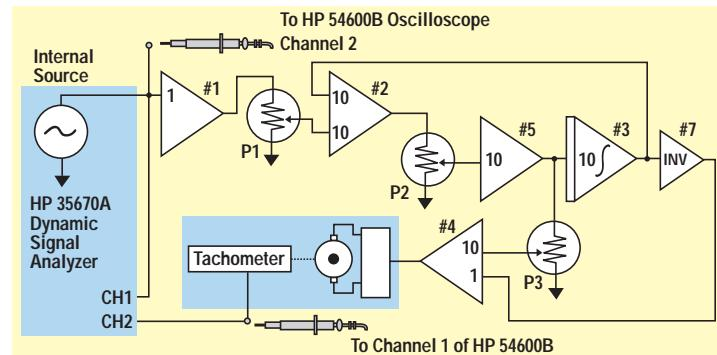

Figure 1. Wiring Diagram for motor with lead controller
Our objective is to study the step response of the motor with a low dc-gain controller as described in the pre-lab1, (www.hp.com/info/educatorlinks). Since this is a Type I system, in the absence of disturbances the steady state error will be zero. This experiment will show that this compensator is not able to overcome the static friction of the motor. This will result in a large steady-state error in the step response. The compensator will be implemented using the analog computer. (Fig. 1)
B) Make the analog computer and measurement connections shown in Fig. 1:
Connect the scope as shown in Fig. 1. You should see an input square wave on CH2. Turn on the motor amplifier. Put the analog computer in OPR (Operate ready) mode. Depress IC (Initial Condition) and then OP (Operate). Depress the push button and keep it depressed. The motor should respond to the step input, and you should be able to see the potentiometer output on the scope. If the motor starts spinning wildly, release the push button and check your connections, particularly those on the analog computer.